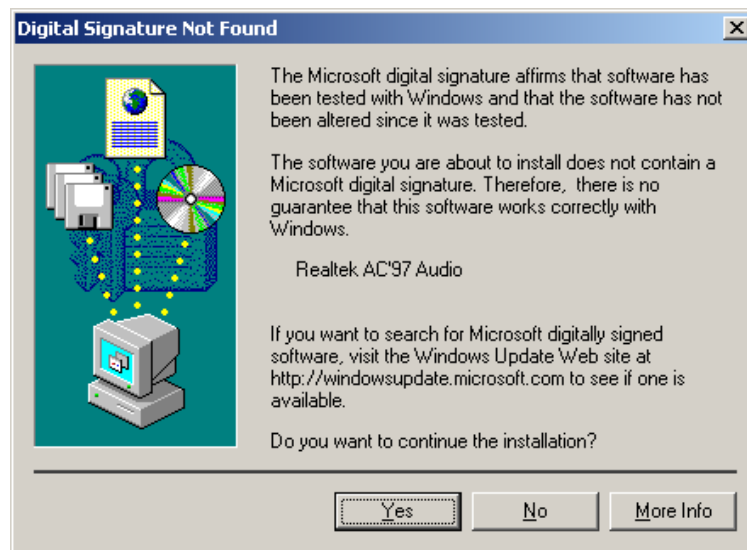

Figure 7-28: Audio Driver Digital Signal
Step 9: At this stage the **Digital Signal Not Found** screen shown in **Figure 7-28** appears.